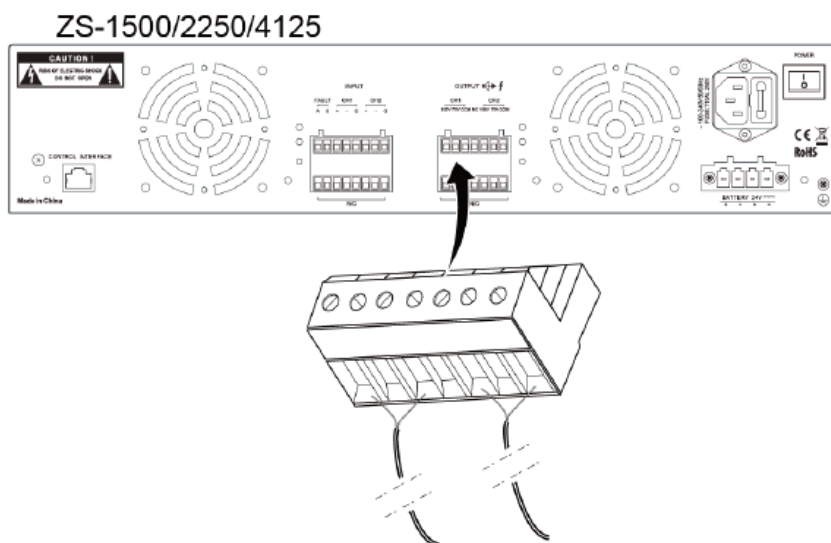

Figure 18 Schematic Diagram of the Audio Output Wiring Terminal Installation
- e. Insert the power amplifier audio output wiring terminal of the installed audio output cable into the ZS-1500/ ZS-2250/ ZS-4125 audio output port, as shown in Figure 18.